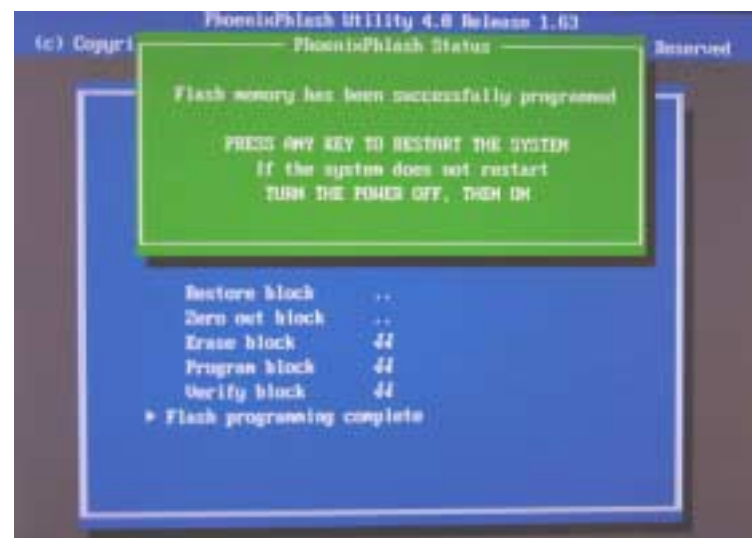

Figure 16-6 Phlash Window
10. Verify message "Phlash memory has been successfully programmed" appears in PhoenixFlash Status box (see Figure 16-6).